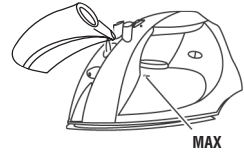

FIGURE 5
3. **Filling the Water Tank:** Place the Iron in the horizontal position (on its Soleplate). Using the Filler Cup provided, slowly pour water through the Water Fill Opening until the Water Tank is filled to the Maximum Water Level Line; DO NOT OVERFILL. (See FIGURE 5.)
2. **Filling the Water Tank:** Place the Iron in the horizontal position (on its Soleplate). Using the Filler Cup provided, slowly pour water through the Water Fill Opening until the Water Tank is filled to the Maximum Water Level Line; DO NOT OVERFILL. (See FIGURE 5.)